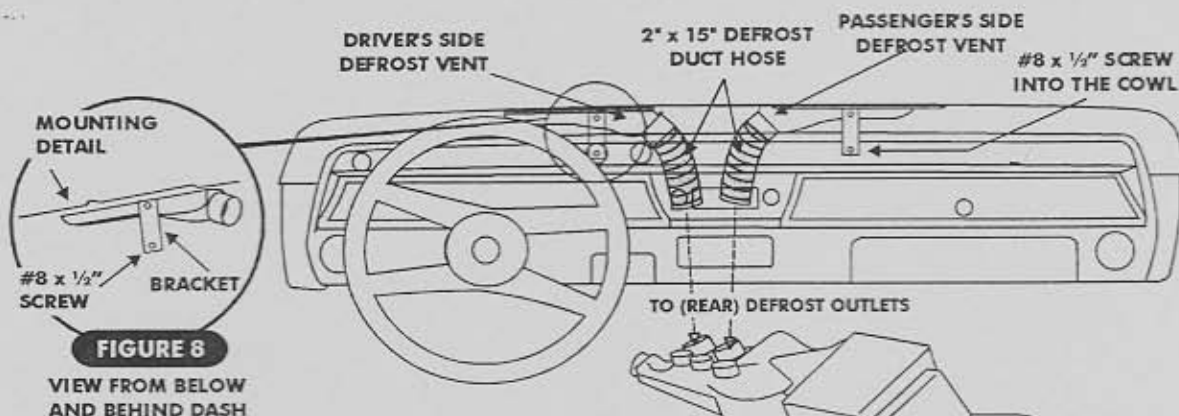

FIGURE 8
- LOCATE THE TWO (SUPPLIED) DEFROST VENTS. CENTER THE DEFROST VENTS UNDER THE DEFROST OUTLET GRILLE OF THE DASH, MARK AND DRILL OUT HOLES WITH A 1/8" DRILL BIT AND ATTACH DEFROST VENTS WITH ONE #8 x 1/2" SCREW (SEE FIGURES 8 & 9) INTO THE COWL. (PUT A SMALL AMOUNT OF SILICONE SEALER ON THE SCREW BEFORE TIGHTENING COMPLETELY).